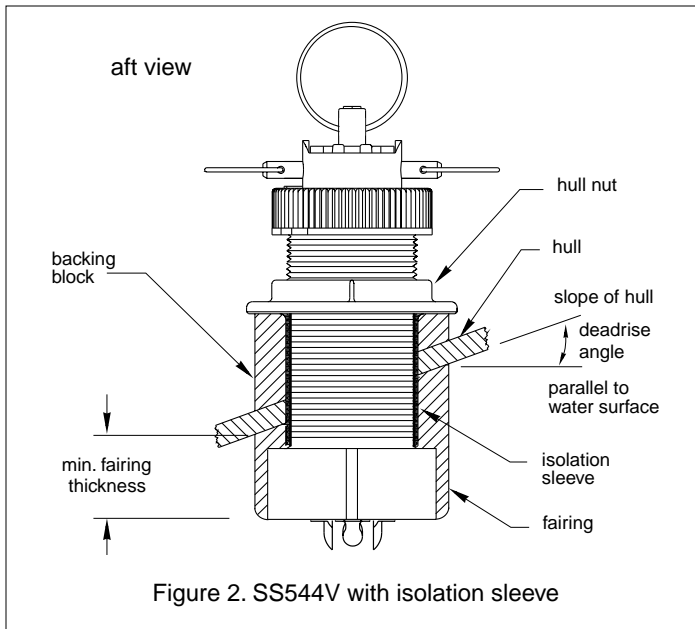

Figure 2. SS544V with isolation sleeve
1. Measure the deadrise angle of the hull at the selected mounting location using a digital level, or bubble level and protractor (see Figure 2).
4. There is a minimum thickness for the fairing at its thinnest dimension (see Figure 2 and Specifications Table 1).
1. Drill a 3mm or 1/8" pilot hole perpendicular to the waterline from inside the hull (see Figure 2). If there is a rib, strut or other hull irregularity near the selected mounting location, drill from the outside. (If the pilot hole is drilled in the wrong location, drill a second hole in a better location. Apply masking tape to the outside of the hull over the incorrect hole and fill it with epoxy.)
1. **B45, B46, B256, B260, SS505**—Remove the hull nut from the sensor (see Figure 2).
2. **Stainless steel sensor in metal hull only**—Slide the appropriate size isolation sleeve over the cable and onto the stem of the sensor as far down as possible (see Figure 2). Be sure the top of the isolation sleeve will be below the top of the backing block to prevent the sleeving from interfering with tightening the hull nut.